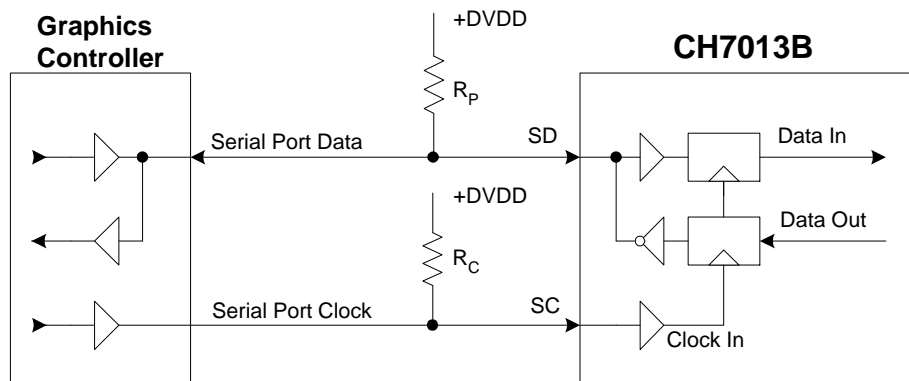

Figure 1: The Connection of the Serial Port Interface of CH7013B
The serial port clock line (SC) is input only and is driven by the output buffer of the graphics controller device, which is the clock master in the system. The serial port data line (SD) is either input to or output from CH7013B depending on the write or read status. The data on the line can be transferred up to 400 kbit/s. **Figure 1** shows the connection of the serial port interface of CH7013B.
The electrical specifications of the serial port inputs and outputs are shown in **Figure 1**. A pull-up resistor (R_p) must be connected to a $3.3V \pm 10\%$ supply. The CH7013B is a device with input levels related to $DVDD2$.